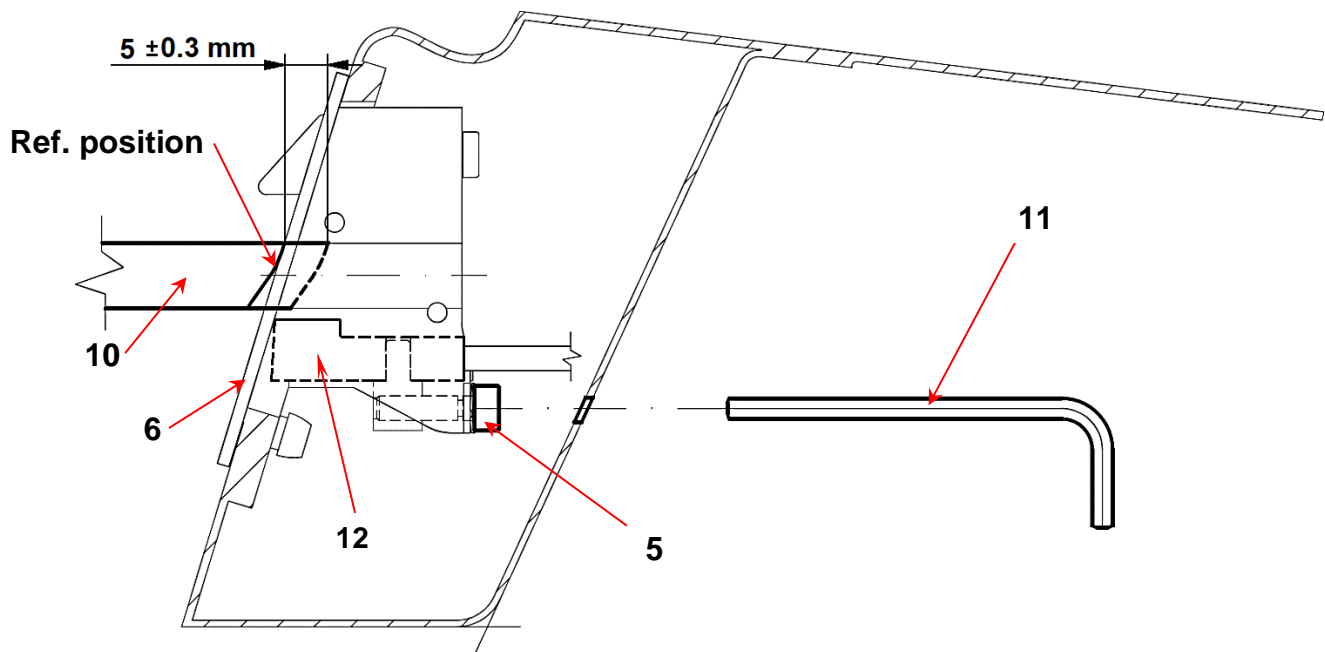

Fig. 9
- 4.2. Set the main latch (10, Fig. 9) to the reference position i. e. closely to the entry hole of canopy lock socket (6).